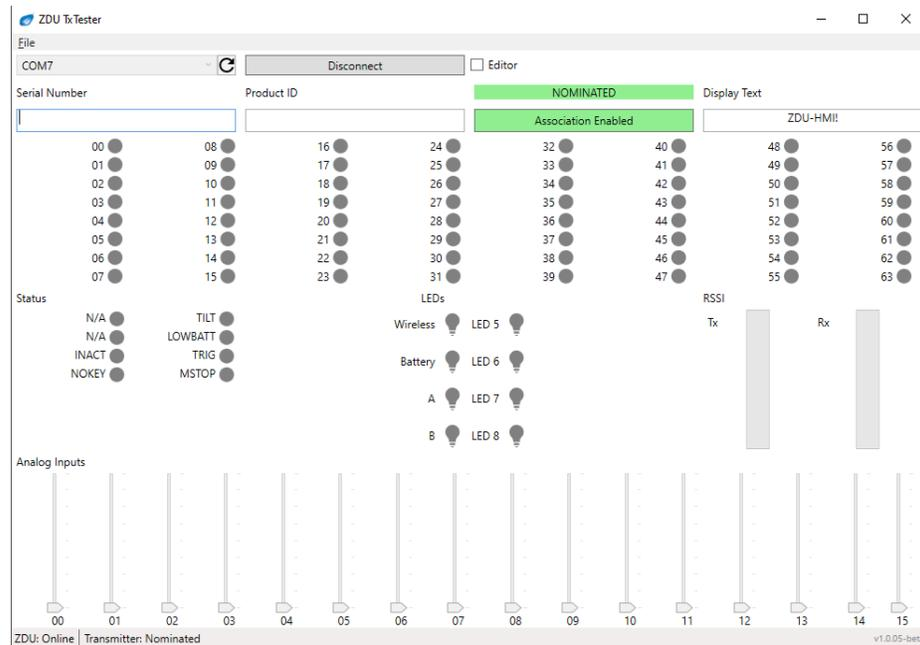

Figure 8. ZDU nomination
3. When the transmitter enters association and the ZDU is nominated, a “NOMINATED” indicator will flash above the Association button. See Figure 8. Use the select switch on the transmitter to select the ZDU when nominated.